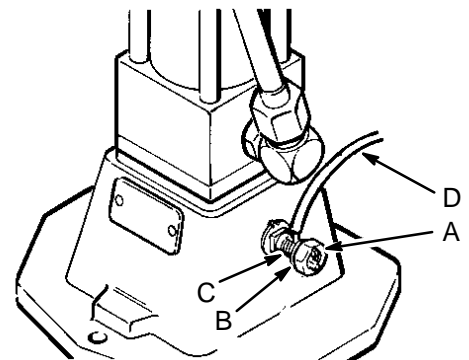

Fig 1
1. *Pump:* Use a ground wire and clamp. See Fig 1.